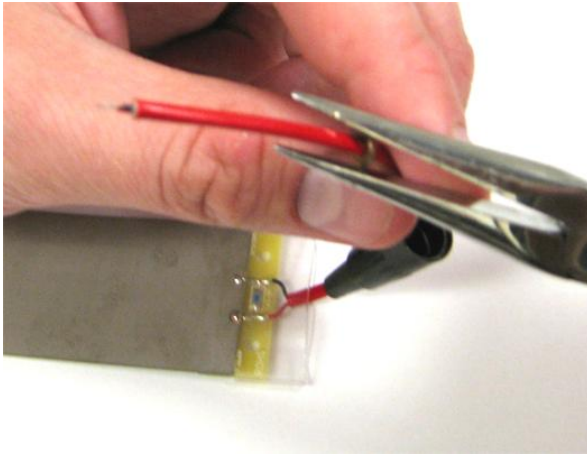
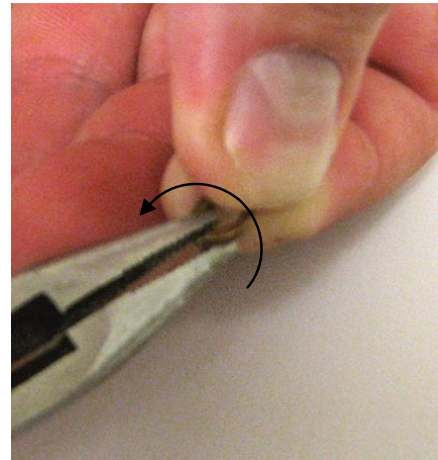

Fig. 4.4a Crimp the brass washer so that it stays put, but can still be moved up and down the fiberglass tubing.
Fig. 4.4b Prior to crimping, use a pair of pliers to twist the ends of the washer so that they don't overlap.
- 4.4 Slide the connector base over the fiberglass tubing. Next slide a brass locking washer over the tubing and use a pair of needle nose pliers to crimp the washer around the fiberglass tubing (Fig. 4.4a). Crimp the washer tightly enough that it stays in place, but not so tightly that it cannot slide up and down the fiberglass tubing. Note: if the ends of the washer overlap or come into contact with each other the washer will be very difficult to crimp. Prior to crimping use a pair of needle nose pliers to twist the ends of the washer away from each other, as shown in figure 4.4b.